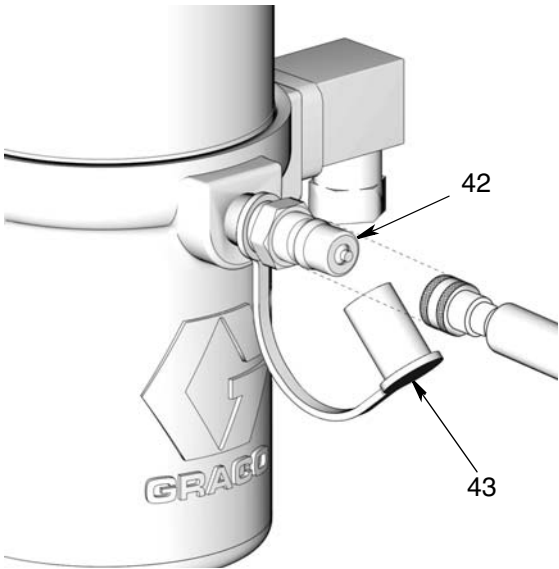

FIG. 4
1. Remove the grease cap (43) (FIG. 4) from the fill port to access the fill stud (42).
2. Connect the quick connect fitting on the fill pump to the fill port (42).
- Disconnect the fill pump from the fill stud (42) (FIG. 4, page 8).
- Secure grease cap (43) over the fill stud (42) (FIG. 4, page 8).